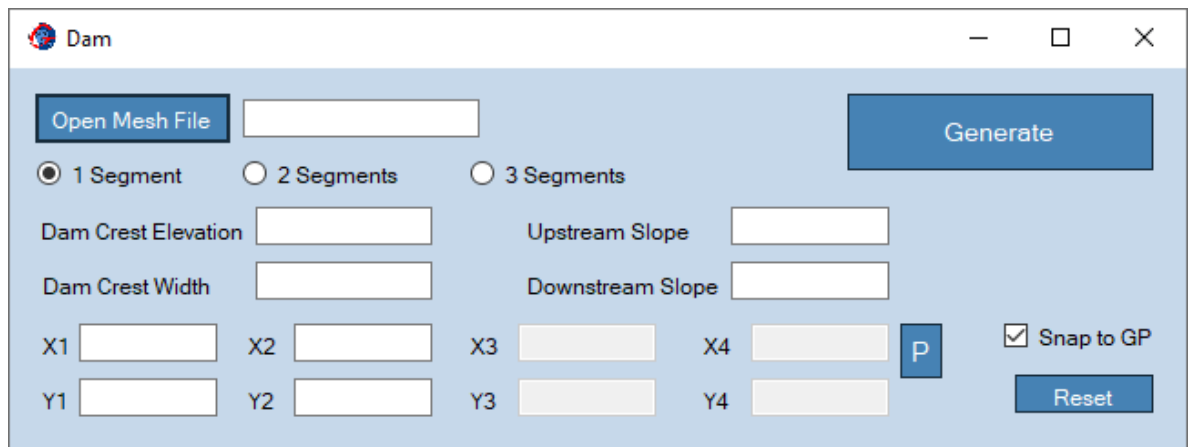

Figure 21: Meshing Menu – Dam.
- **Meshing Menu, Dam:** This option (shown in Figure 21) defines a Dam landform over any given surface.